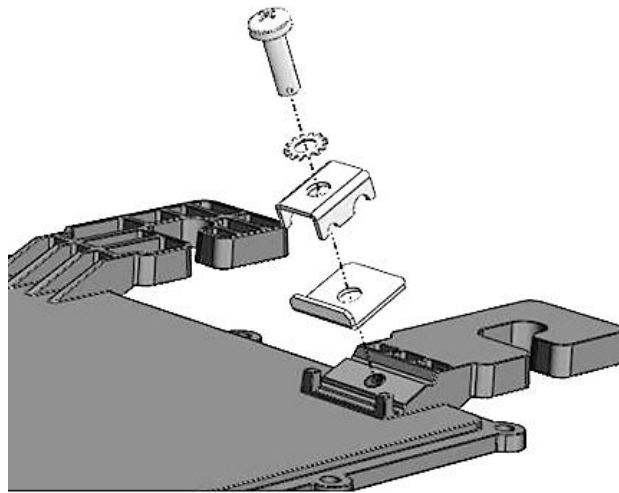

Figure 3: Attachment of a grounding terminal
The optional grounding lug kit consists of four parts: a lower retainer, an upper retainer, a lockwasher and a screw, all shown in Figure 3. All components are stainless steel to prevent corrosion of the copper equipment grounding conductor and of the aluminum housing of the power optimizer. SE-GNDLUG-100 includes parts for 100 grounding lugs.
1. Attach a grounding terminal to each power optimizer using the supplied hardware. See Figure 3.